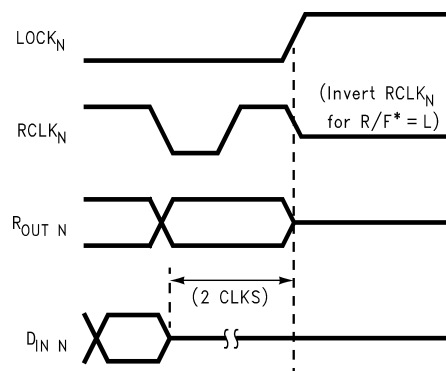

Figure 6. Unlock
- (1) The routing of the Din inputs to the Deserializers and to the CHTST outputs are dependent on the states of SEL [0:2].
- (2) Rout n[0:9] and RCLK [0:5] are Tri-Stated when LOCKn[0:5] is High.
- (3) LOCK Active indicates that the LOCK output will reflect the state of it's respective Deserializer with regard to the selected data stream.
- (4) RCLK Active indicates that the RCLK will be running if the Deserializer is locked. The timing of RCLK [0:5] with respect to Rout [0:5][0:9] is determined by RCLK_R/F Figure 6